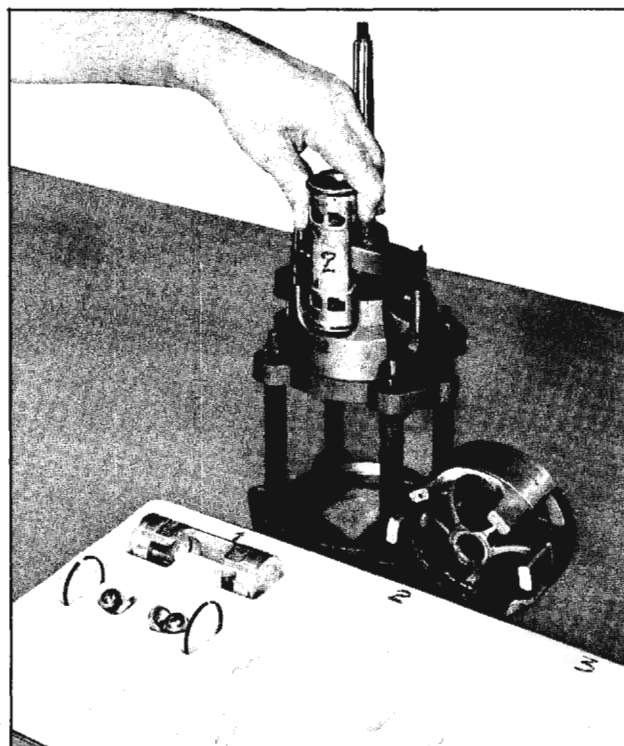

Fig. 15-73 Removing Piston
8. Repeat procedure until all pistons are removed. (Fig. 15-73)